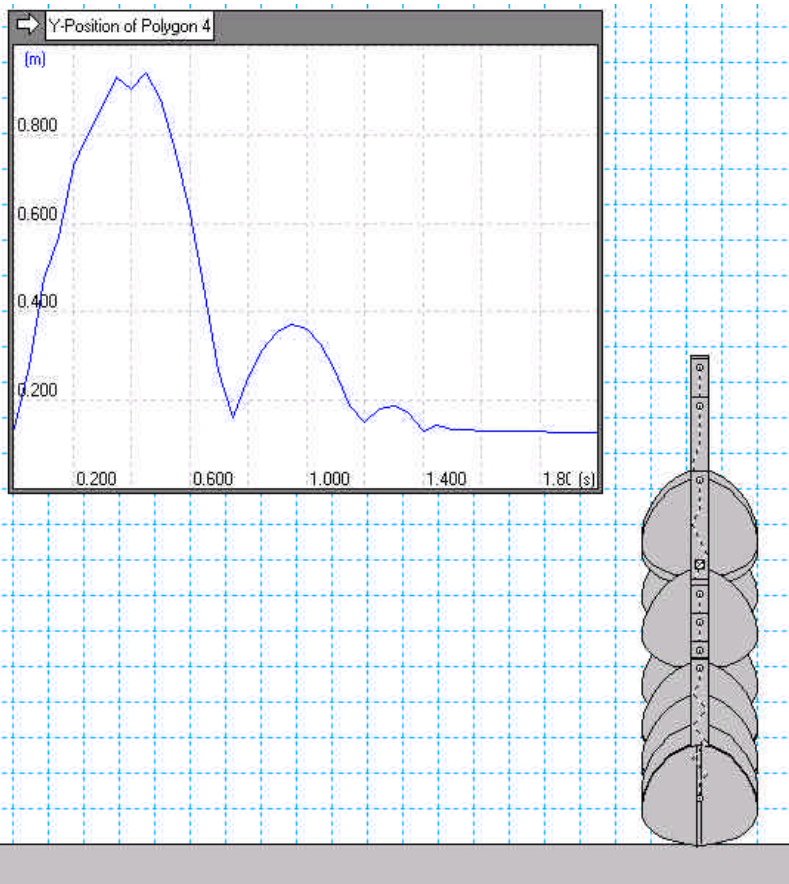

Figure 25. Simulation result.
8. Add any necessary charts. In this case, we will generate a plot of body height vs. time. Select the body and under the *Measure* menu, select *Position*, and then *Y-Graph*. See Figure 25.
9. Run the simulation! See Figure 25.